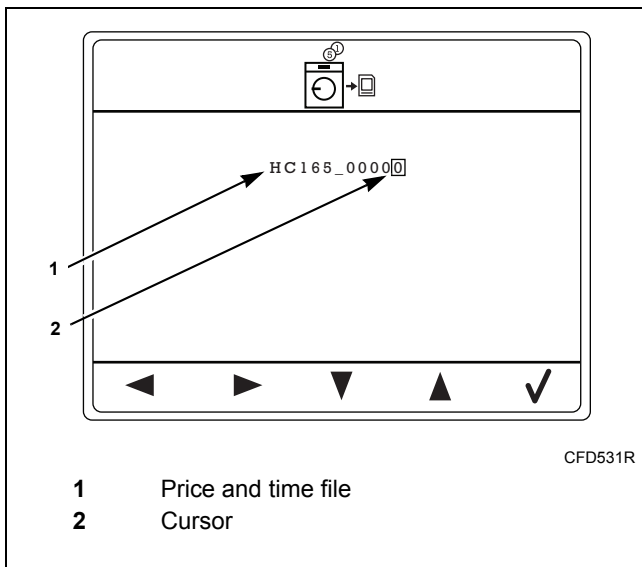

Figure 56
1. Move the cursor using the keypads below the Left/Right icons to select a letter or figure or to add a letter or figure. Refer to *Figure 56*.
2. Change the letters and figures with using the keypads below the Up/Down icons. Refer to *Figure 56*.
3. Press the keypad below the Check icon to write the data to the data card. Refer to *Figure 56*.